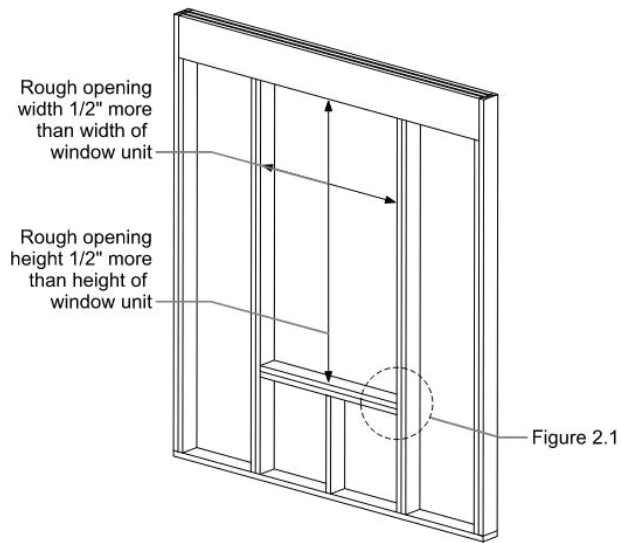

Figure 1
- 1) When measuring or talking about window sizes, it's always width first then height. *(See Figure 1 on next page)*